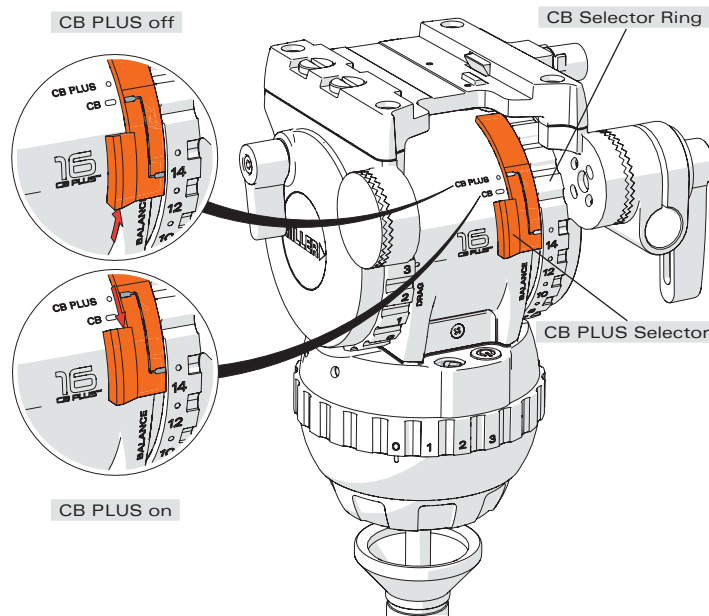

Fig. 4
The counterbalance system was designed to neutralise the effect of the camera weight when it is tilted. The Compassx Fluid Head offers a 16 position counterbalance system which is operated with the CB SELECTOR RING and the CB PLUS SELECTOR (Fig. 4). With the Compassx systems it is also possible to disengage counterbalance (position zero),
- 3.1 For safety it is generally better to start at a higher counterbalance position (e.g. position 14) and work your way to the correct setting, this is to reduce any chance of unwanted tilt drops (Fig. 4).